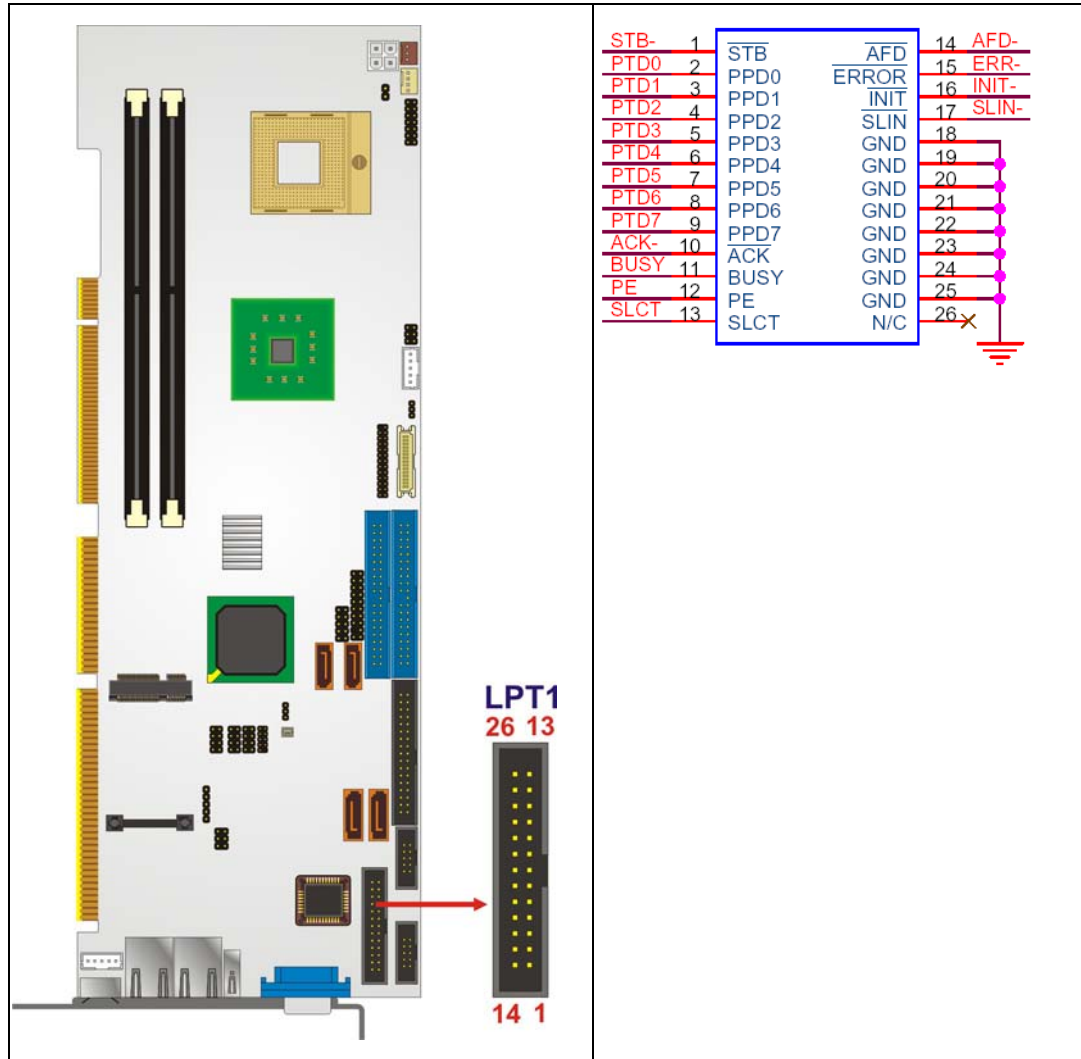

Figure 4-15: Parallel Port Connector Location
- CN Location:** See **Figure 4-15**